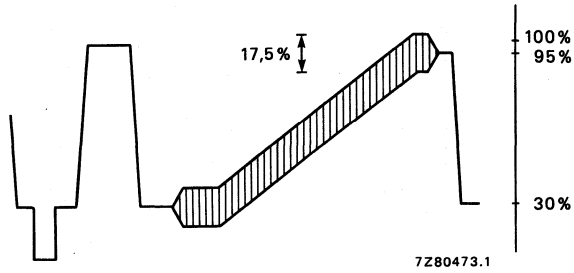

Fig.2 Video output signal.
- Measured according to the test line illustrated by Fig.2: